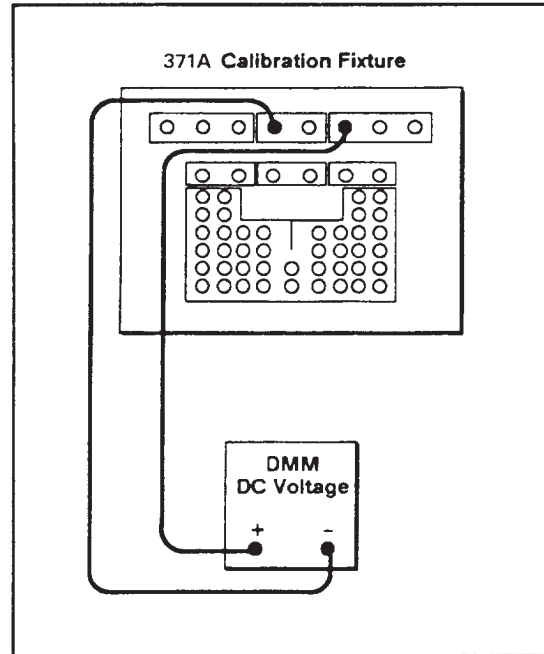

Figure 4-16. Setup for checking maximum voltage accuracy of voltage source mode.
3. Connect the digital multimeter between the STEP GENERATOR VOLTAGE terminal and the COMMON terminal as shown in Figure 4-16.